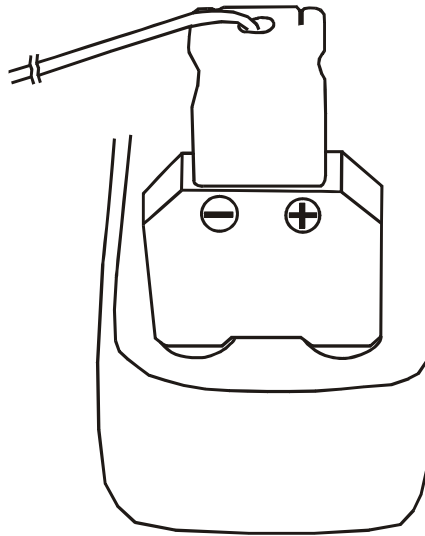

Fig. 10: use of clamp for temperature measure
2. Insert the test leads into the jacks, the red test lead play into "+" jack, and the black test lead plug into COM jack, as shown in Fig.10.